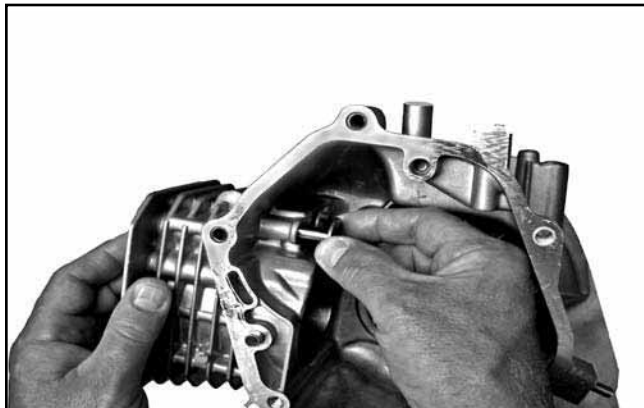

Figure 8-51. Removing Tappets.
1. Remove the tappets. Mark them INTAKE and EXHAUST for reinstallation. See Figure 8-51.